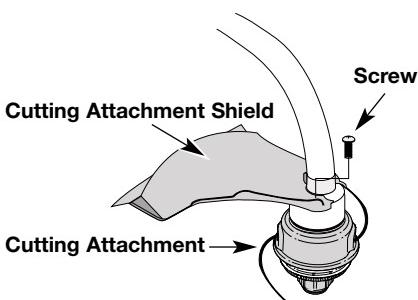

Fig. 8
2. Push the cutting attachment shield down to the top of the cutting attachment assembly. Rotate the cutting attachment shield so that it points to the engine, and the holes in the cutting attachment shield line up with the holes in the top of the cutting attachment assembly (Fig. 8).
3. Install the four (4) screws with a small Phillips screwdriver (Fig. 8).